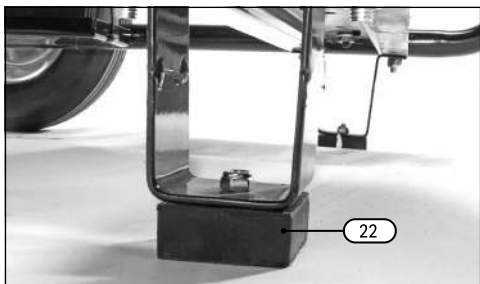

Fig. 2
4. Slide a wheel (15) onto each axle with the raised bore extending inwards and secure them in place with the remaining nuts and washers.
6.2 Attach the Rubber Feet (Fig.2)